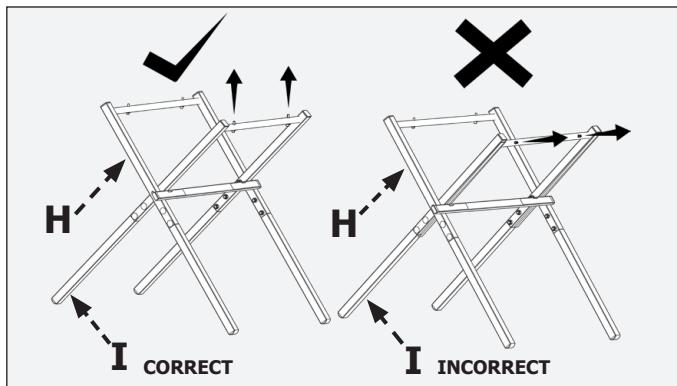

FIGURE 2
**NOTE:** M8 spacer (c) is between stand part (H) and (I). (FIGURE 2) for correct stand parts setup.